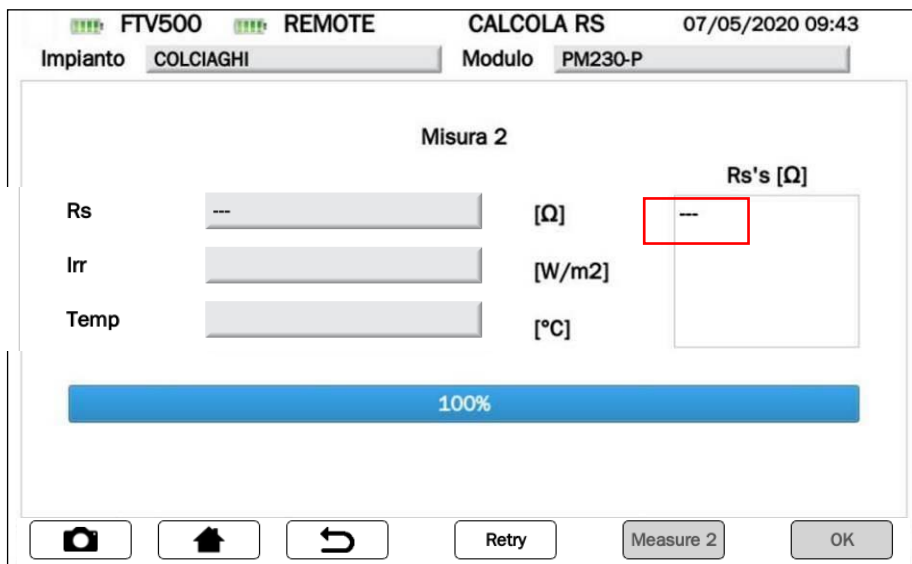

Figure 14.7.3-17 RS measurement “---”
- If the Rs measurement (see Figure 14.7.3-16) is not displayed, check: